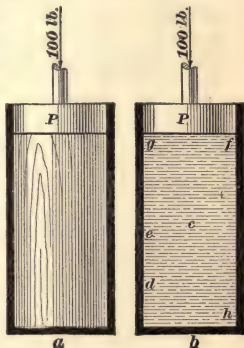
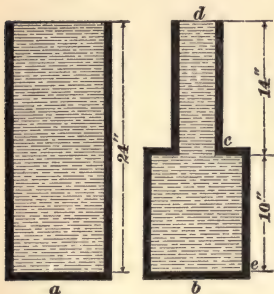

FIG. 1.
FIG. 3.
3. Hydrostatic Pressure.—Fig. 1 represents two cylindrical vessels of exactly the same size. The vessel *a* is fitted with a wooden block of the same size as, and free to move in, the cylinder; the vessel *b* is filled with water, whose depth is the same as the length of the wooden block in *a*. Both vessels are fitted with air-tight pistons *P*, each of whose areas are 10 square inches.
7. Downward Pressure.—In Fig. 3 the pressure on the bottom of the vessel *a* is, of course, equal to the weight of the water it contains. If the area of the bottom of the vessel *b* and the depth of the liquid contained in it are the same as in the vessel *a*, the pressure on the bottom of *b* will be the same as on the bottom of *a*. Suppose the bottoms of the vessels *a* and *b* are 6 inches square, and that the part *cd* in the vessel *b* is 2 inches square, and that they are filled with water. Then, since 1 cubic foot of water weighs 62.5 pounds, the weight of 1 cubic inch of water is $\frac{62.5}{1,728}$ pound = .03617 pound. The number of cubic inches
If this pressure were to be obtained by means of a weight placed on each piston (as shown in Fig. 1 at a and b), we would have to put a weight of $6 \times 6 \times 10 = 360$ pounds on the piston in vessel a , Fig. 3, and one of $2 \times 2 \times 10 = 40$ pounds on the piston in vessel b .
10. Suppose that the vessel *b*, in Fig. 3, were inverted, as shown in Fig. 4, the pressure on the bottom would still be .868 pound per square inch, but it would require a weight of 3,490 pounds on a piston at the upper surface to make the pressure on the bottom 391.25 pounds, instead of a weight of 40 pounds, as in the other case.